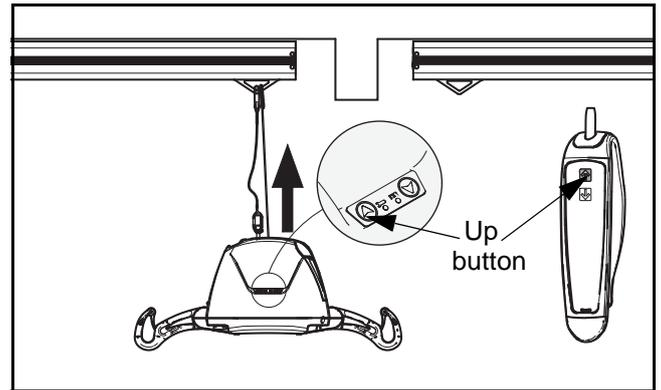

Fig. 22
- 5) Hook the portable lift's carabiner to the second trolley. Press the UP button on the hand control until the extension strap becomes slack, and the patient is at a comfortable height (see Fig. 22).